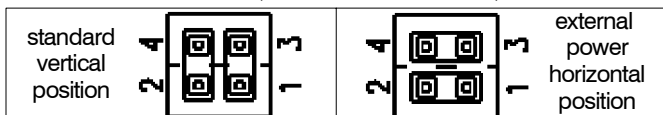

Figure 3. Jumper blocks.
1. Move both jumper blocks to the horizontal positions (between pins 4 & 3 and 2 & 1); see Figure 3 (right side).